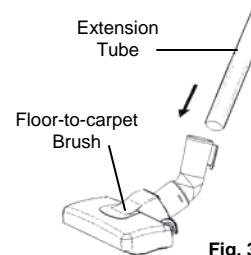

Fig. 3
- Push the lower extension tube into the floor-to-carpet brush. (Fig. 3)